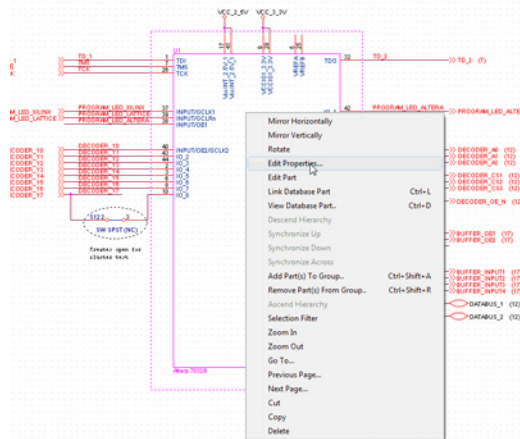

Figure 1: Editing the Schematic Symbol Properties
2. Right click and select **"Edit Properties,"** as shown in Figure 1